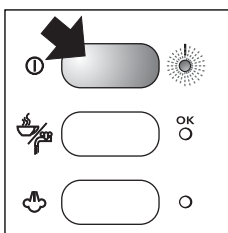
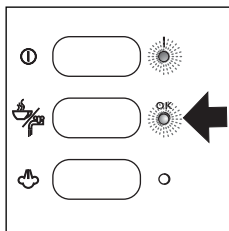
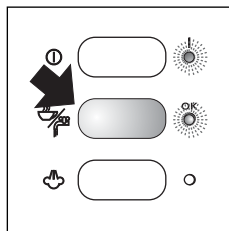
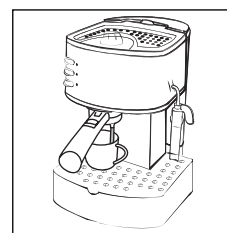

fig. 4
fig. 6
fig. 7
fig. 11
1. Press the ON/OFF button (fig. 4).
3. Position a cup under the filter holder. Use the same cup that the coffee will be served in, so that it may be preheated. Wait until the "OK" light comes on (fig. 6), then immediately press the coffee knob (fig. 7). Allow the water to run until the OK indicator light goes out, then stop the water by pressing the coffee button again (fig. 7).
4. Place the cup or cups (cups can be preheated by rinsing under hot water or heating on the cup warmer plate for 10 minutes) on the removable drip tray (fig 11). Ensure that the cup or cups line up with the dispensing holes on the filter holder. Press the on/off button (fig. 4).
5. Wait until the “OK” light comes on (fig 6) then press the coffee button (fig. 7). Once the required quantity of coffee has been obtained, interrupt delivery by pressing the same button again (fig. 7).
8. To turn the coffee machine off, press the ON/OFF button (fig. 4).
1. Turn the appliance on by pressing the ON/OFF button (fig. 4). Wait until the OK indicator light comes on (fig. 6).
3. Press the coffee button (fig. 7) and at the same time open the steam knob. Hot water is delivered from the cappuccino maker.